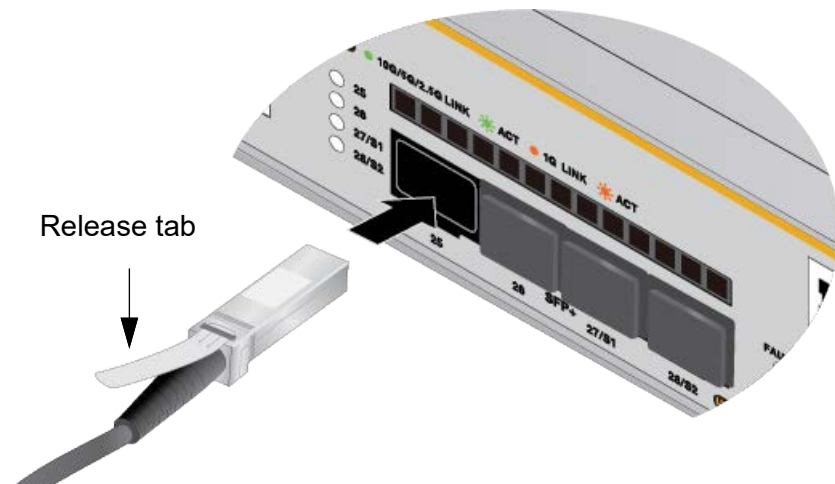

Figure 75. Installing SP10TW Cables
4. Slide the connector into the slot. The release tab on the connector must be on the top. Refer to Figure 75.